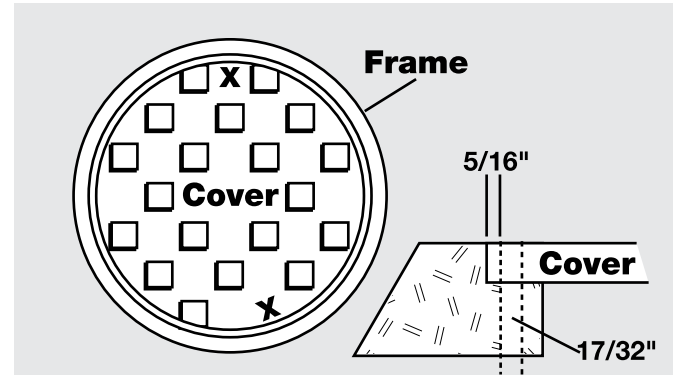

Figure 1
- Drill location approximately 5/16" from edge of cover. (See Figure 1)
STEP 6: Repeat Steps 2 thru 5 for a second bolt to secure cover. Second hole should be 170-degrees from first hole (See Figure 1, marked "X").